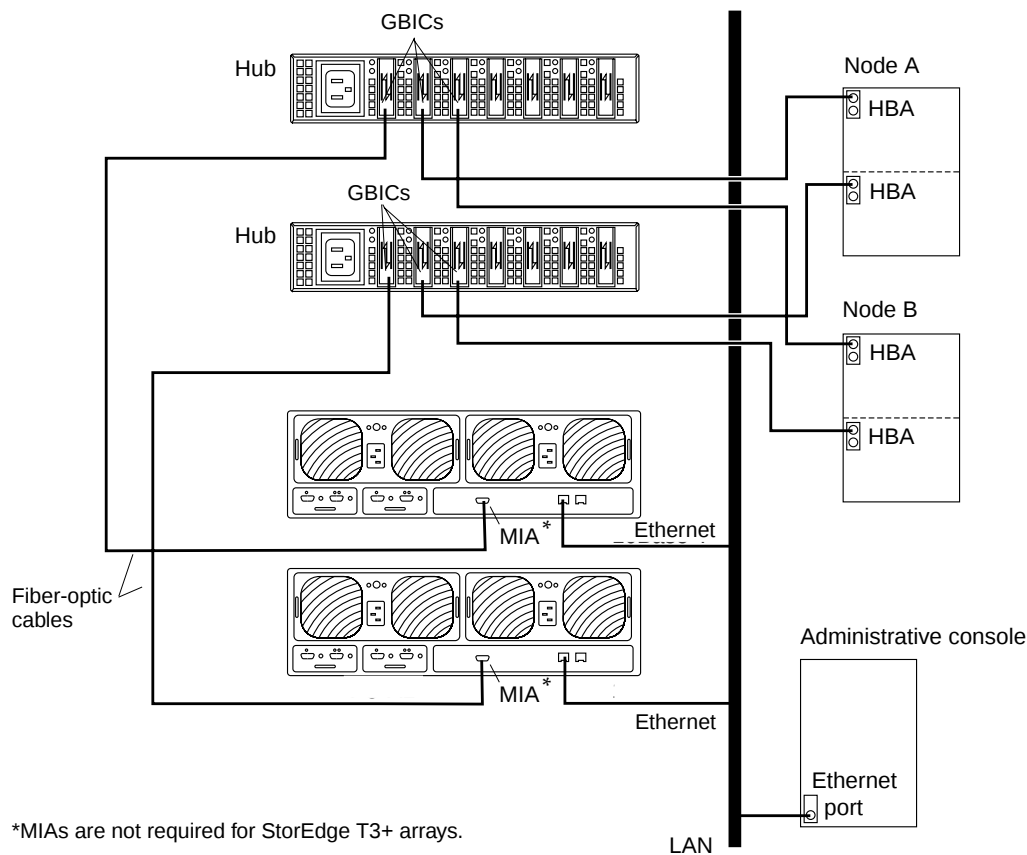

FIGURE 8-1 Cabling StorEdge T3/T3+ Arrays in a Single-Controller Configuration
Install the media interface adapters (MIAs) in the StorEdge T3 arrays you are installing, as shown in FIGURE 8-1.**
5. If necessary, install gigabit interface converters (GBICs) in the Sun StorEdge FC-100 hubs, as shown in FIGURE 8-1.
6. Install fiber-optic cables between the Sun StorEdge FC-100 hubs and the StorEdge T3/T3+ arrays as shown in FIGURE 8-1.
7. Install fiber-optic cables between the Sun StorEdge FC-100 hubs and the cluster nodes as shown in FIGURE 8-1.
8. Install the Ethernet cables between the StorEdge T3/T3+ arrays and the Local Area Network (LAN), as shown in FIGURE 8-1.
Note – Although FIGURE 8-1 shows a single-controller configuration, two arrays are shown to illustrate how two non-interconnected arrays are typically cabled in a cluster to allow data sharing and host-based mirroring.